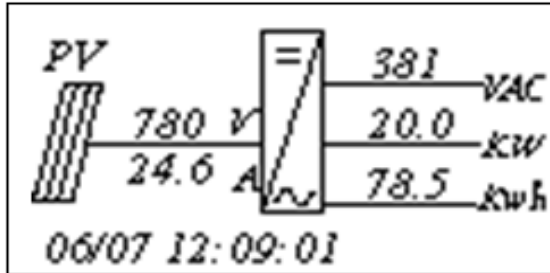

Figure 4-2 Default indication interface for normal operation
(2) Normal operation, as shown in Figure 4-2: